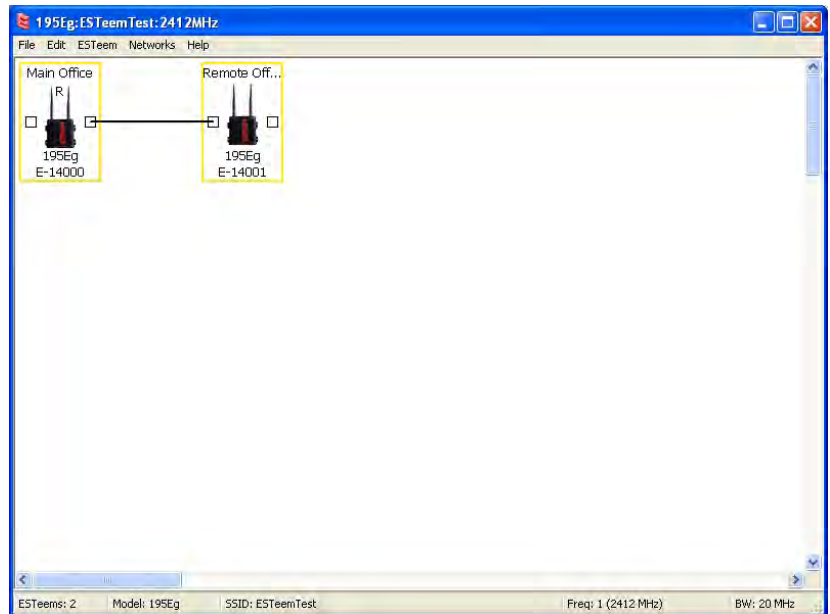

Figure 13: Create Wireless Link
1. Add the two ESTeem Model 210s to the network using the above procedure. Once both ESTeem 210s are on the configuration page, create a wireless link by clicking on one of the two connection boxes and dragging a line to the other modem (Figure 13).